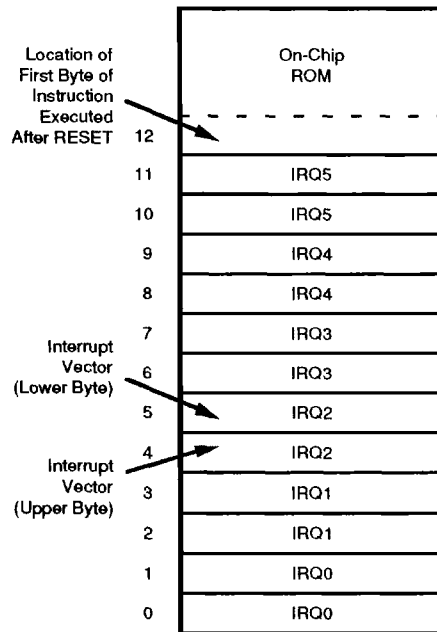

Figure 6. Program Memory Map
**Program Memory.** The Z86C30 can address up to 4K bytes of internal program memory (Figure 6). The first 12 bytes of program memory are reserved for the interrupt vectors. These locations contain six, 16-bit vectors that correspond to the six available interrupts. Byte 13 to byte 4095 consists of on-chip mask programmed ROM.